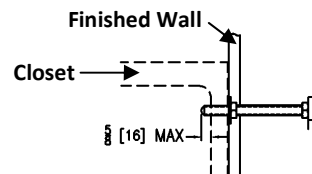

Figure 11a
11. Prep for finished wall. Fasten the (4) threaded rods from the finish bag into the faceplate, through the foot slots until each rod extends $\frac{5}{8}$ [16] past the closet bowl flange (see **Figure 11a**).